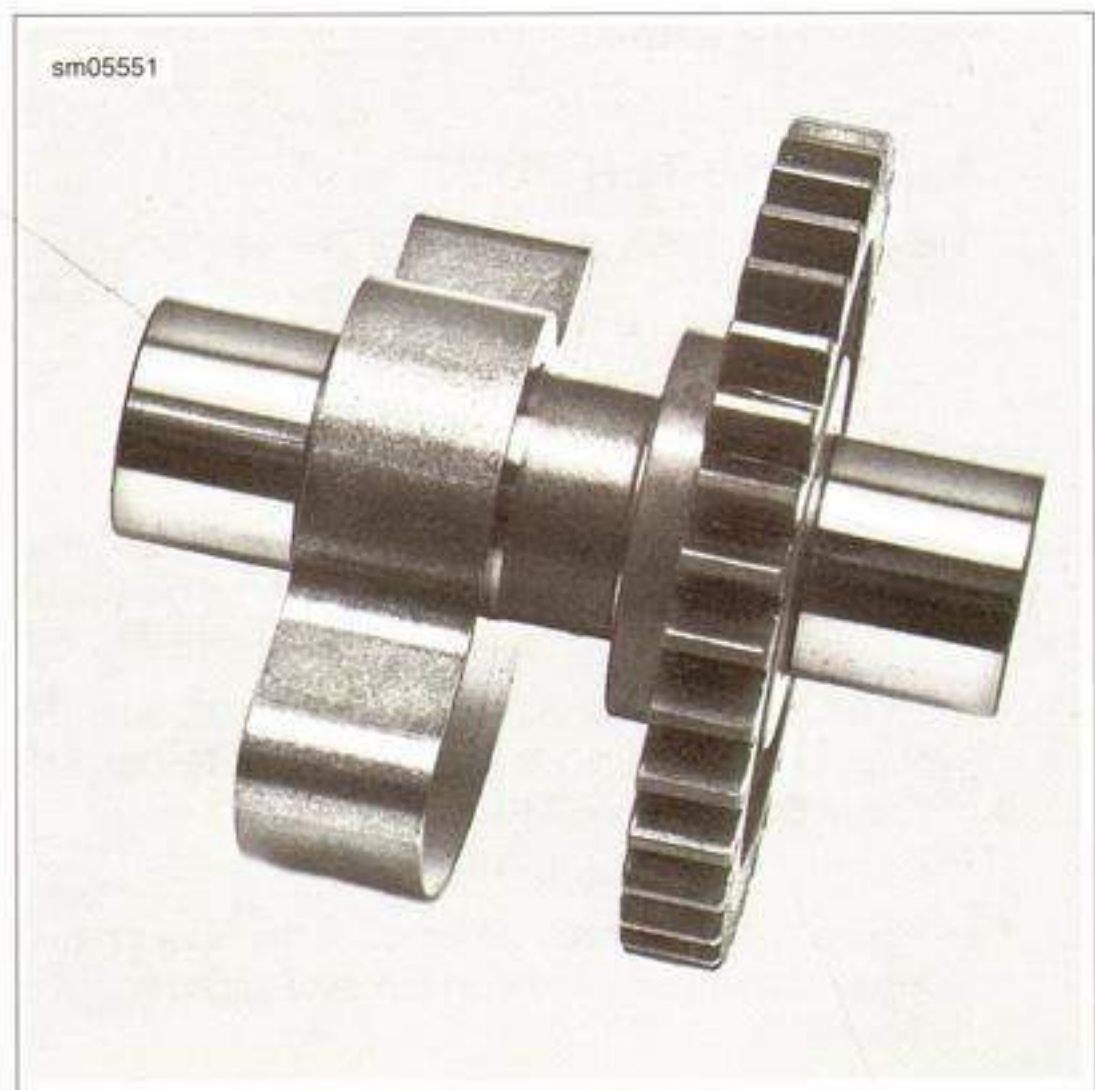

Figure 3-121. Bottom Balancer
3. See Figure 3-121. Apply LUBRIPLATE No. 105 Motor Assembly Grease to the splines on the crankshaft, the balancer support surface in the crankcase and both ends of the balancer shaft.